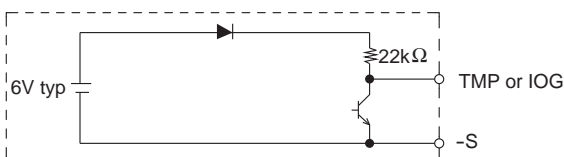

Fig.4.1 TMP, IOG circuit
- When overheat is detected, thermal detection signal (TMP) turns "L" from "H". TMP circuit is designed as shown in Fig.4.1, and specification is shown as in Table 4.1.
- By using the inverter operation monitor(IOG), malfunction of the inverter can be monitored. When inverter operation is in following mode or , IOG signal turns "H" from "L" within 1 second. IOG circuit is designed as shown in Fig.4.1 and specification is shown in Table 4.1.